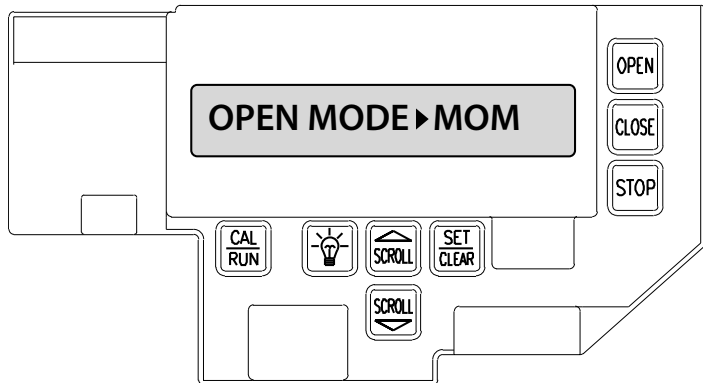

Fig. 2
1. Press CAL/RUN to enter calibration mode. Fig. 2.